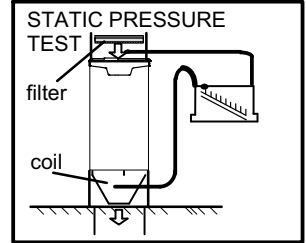

FIGURE 50
- 1 - Tap locations shown in figure 50.